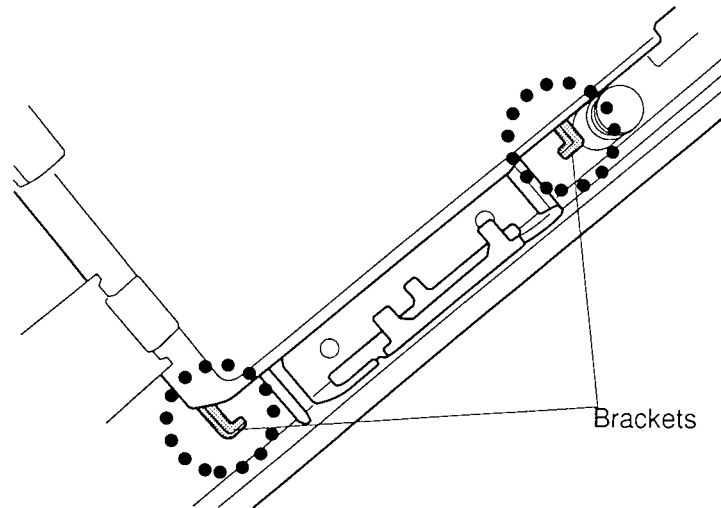

*Figure 4-30 Removing the power/reset cable*
9. Disconnect the **power/reset cable** from the **power/reset board** (figure 4-30).
1. Connect the **power/reset cable** to the **power/reset board** (figure 4-30).